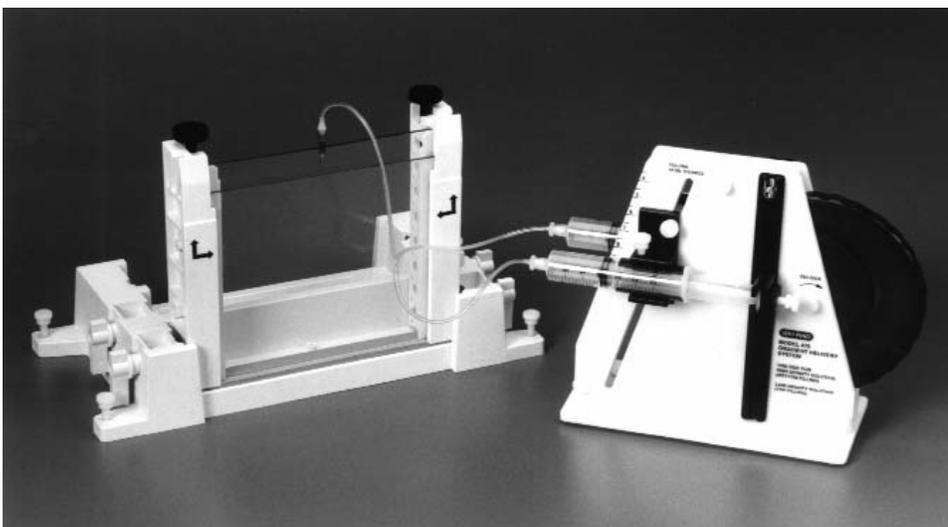

Fig. 4.13. Casting a parallel gradient gel.
12. Attach a 19 gauge needle to the coupling. Hold the beveled side of the needle at the top-center of the gel sandwich and cast (Figure 4.13). For convenience, the needle can be taped in place.